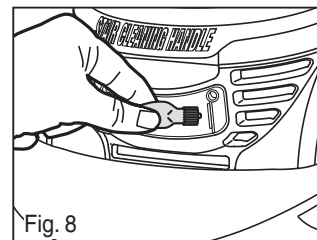

Fig. 8
- 3) Replace with bulb rated 12v., 10w., Type 904. Push in new bulb, replace lens cover and replace screws (Fig. 8). Make certain bulb will not touch lens cover.